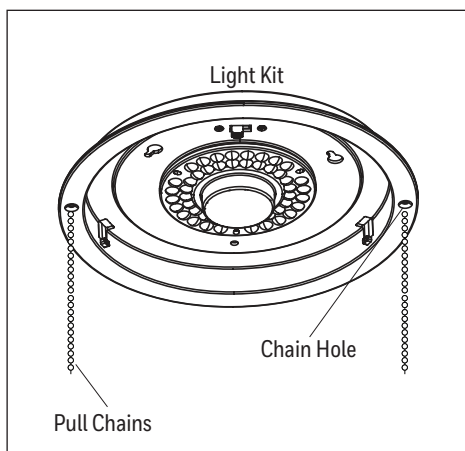

Figure 5.7
7. If necessary, feed the chains from sides of light kit down through the two chain holes (Figure 5.7).